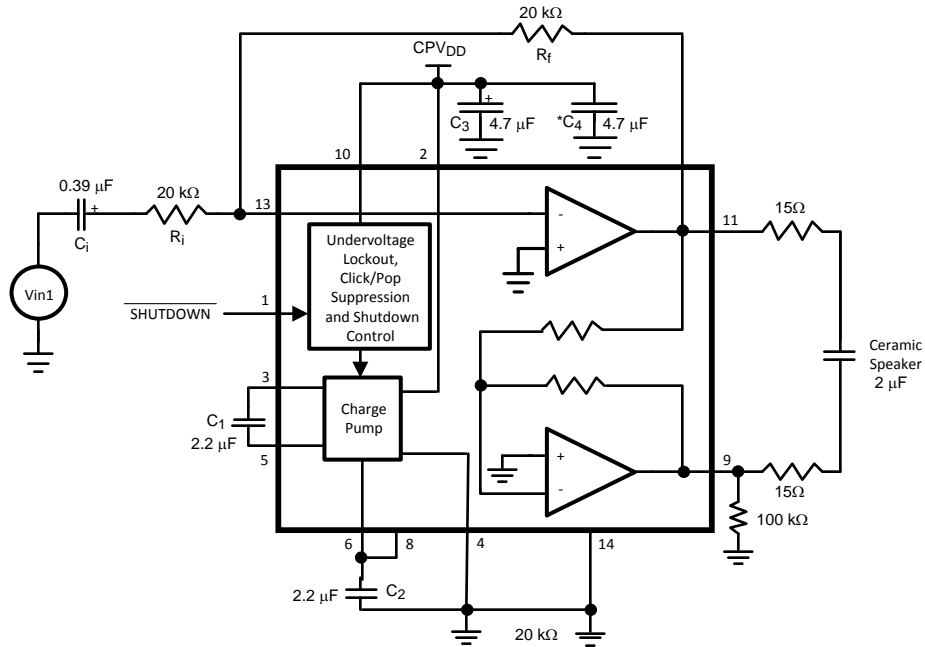

Figure 1. Typical Application Circuit
- (1) All voltages are measured with respect to the GND pin unless otherwise specified.
- (2) Absolute Maximum Ratings indicate limits beyond which damage to the device may occur. Operating Ratings indicate conditions for which the device is functional but do not ensure specific performance limits. Electrical Characteristics state DC and AC electrical specifications under particular test conditions that ensure specific performance limits. This assumes that the device is within the Operating Ratings. Specifications are not ensured for parameters where no limit is given; however, the typical value is a good indication of device performance.
- (3) If Military/Aerospace specified devices are required, please contact the Texas Instruments Sales Office/Distributors for availability and specifications.
- (4) The maximum power dissipation must be derated at elevated temperatures and is dictated by TJMAX, θJA, and the ambient temperature, TA. The maximum allowable power dissipation is PDMAX = (TJMAX - TA)/θJA or the number given in Absolute Maximum Ratings, whichever is lower. For the LM4xxx typical application (shown in Figure 1) with VDD = yyV, RL = 2μF+30Ω mono BTL operation the total power dissipation is xxxW. θJA = 40°C/W.
- (5) Human body model, 100pF discharged through a 1.5kΩ resistor.
- (6) If the product is in shutdown mode and VDD exceeds 3.6V (to a max of 4V VDD), then most of the excess current will flow through the ESD protection circuits. If the source impedance limits the current to a max of 10mA, then the part will be protected. If the part is enabled when VDD is above 4V, circuit performance will be curtailed or the part may be permanently damaged.
- (7) Machine Model, 220pF-240pF discharged through all pins.
The following specifications apply for  $V_{DD} = 3.6V$ ,  $A_{V-BTL} = 6dB$ ,  $Z_L = 2\mu F + 30\Omega$  unless otherwise specified. Limits apply to  $T_A = 25^\circ C$ . See Figure 1.
The following specifications apply for  $V_{DD} = 3.0V$ ,  $A_{V-BTL} = 6dB$ ,  $Z_L = 2\mu F + 30\Omega$  unless otherwise specified. Limits apply to  $T_A = 25^\circ C$ . See Figure 1.